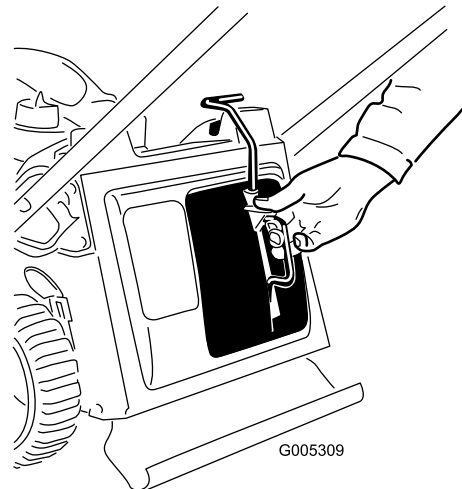

Figure 31
1. Remove the mulch plug (Figure 31).